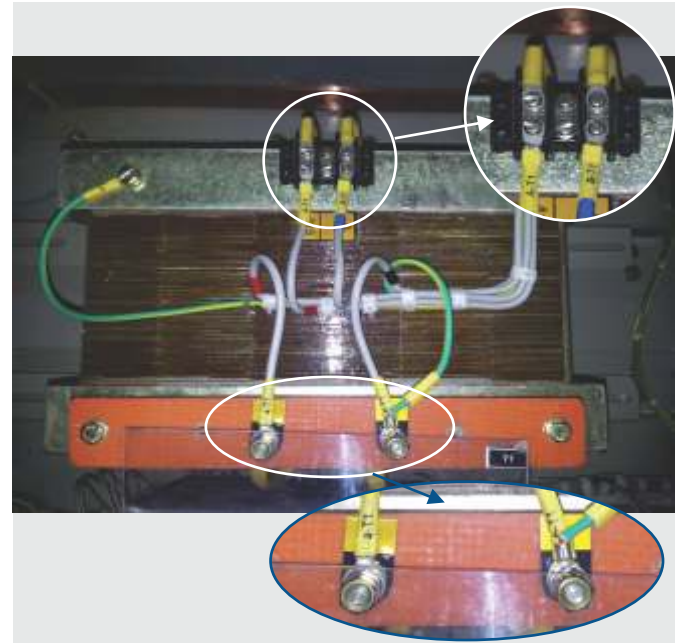

Figure 49 - Installation of Control Transformer
3. Bolt the Control Transformer to the base plate Figure 49.